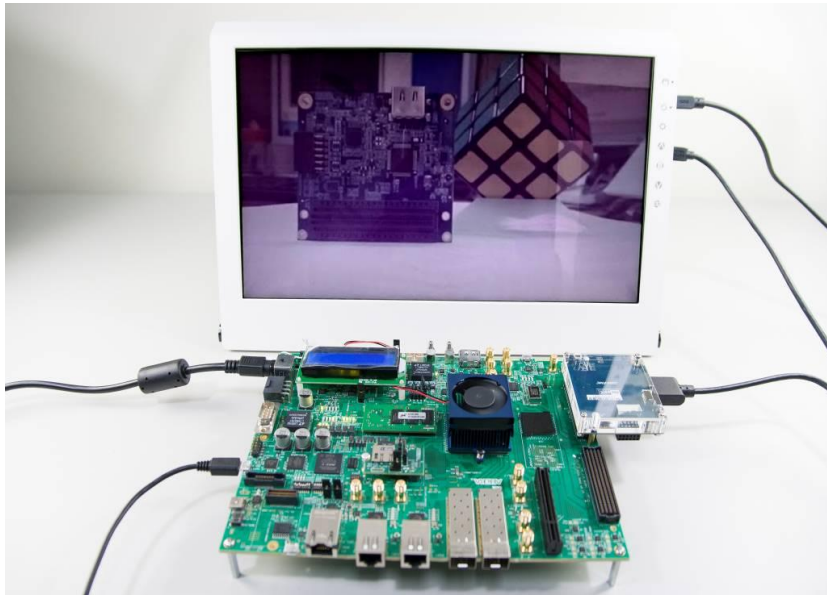

Figure 4-5A10SoC demo hardware setting up
As shown in Figure 4-5
- Plug D8M-FMC onto A10SoC (FMC Port A), connect HDMI monitor to HDMI port see Figure 4-5